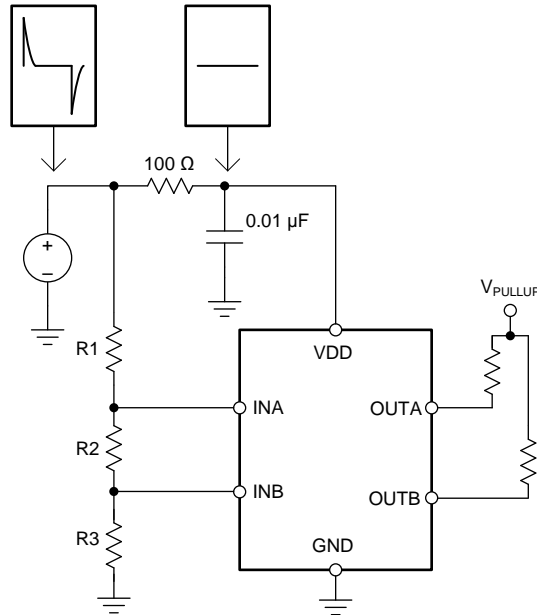

图 27. Using an RC Filter to Remove High-Frequency Disturbances on VDD
The TPS3701 has a 40-V absolute maximum rating on the VDD pin, with a recommended operating condition of 36 V. If the voltage supply that is providing power to VDD is susceptible to any large voltage transient that may exceed 40 V, or if the supply exhibits high voltage slew rates greater than 1 V/ μ s, take additional precautions. Place an RC filter between the supply and VDD to filter any high-frequency transient surges on the VDD pin. A 100- Ω resistor and 0.01- μ F capacitor is required in these cases, as shown in Figure 27.
- Avoid using long traces for the VDD supply node. The VDD capacitor (C_{VDD}), along with parasitic inductance from the supply to the capacitor, may form an LC tank and create ringing with peak voltages above the maximum VDD voltage. If this is unavoidable, see 图 27 for an example of filtering VDD.